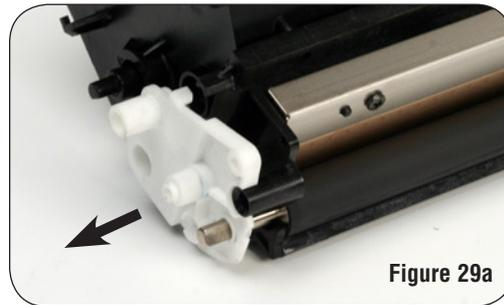

Figure 29a
10. Remove the drive and contact side developer roller axle bearings, as shown in Figures 29a and 29b.